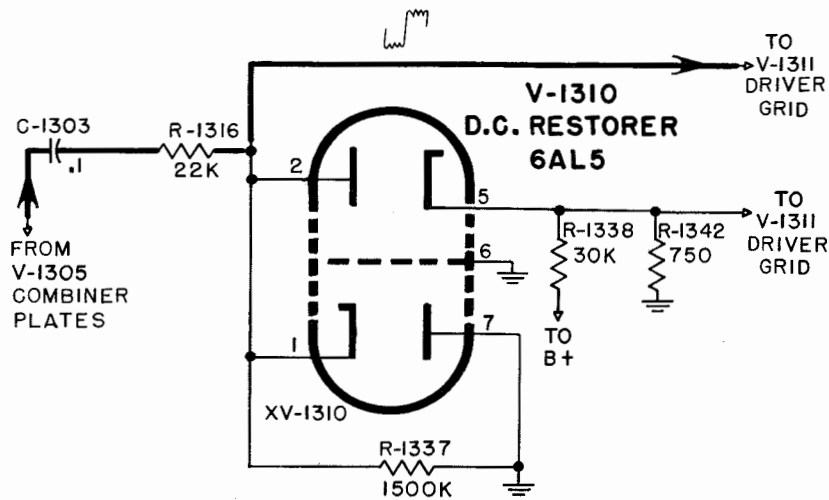

Figure 2-50. D.C. Restorers V-1310, V-1318, Simplified Schematic Diagram
(12) D.C. RESTORERS, V-1310 AND V-1318 (CM-32/FRR-24). (See Figure 2-50).—The following description of the D.C. restorer V-1310 is also applicable to the other D.C. Restorer V-1318. Up to this point the signal has been carried through with amplification not only of its swings but also of its average level. However, the output of a long string of D.C. amplifiers generally drifts considerably in D.C. level. The drift of the transmitter sending the message may shift the average D.C. level to approach the Mark side of the signal or the Space side of the signal depending upon the direction in which the drift occurs. The keying system would be very erratic and unstable resulting in errors if maintained under these conditions. To avoid this, the DC string is now broken by capacitor C-1303. A D.C. restorer V-1310 a type 6AL5 dual diode is inserted to maintain the correct average level. One diode section conducts in the negative direction to ground, the other conducts in the positive direction to a low impedance source, of plus 3.5 volts, which is the voltage developed across R-1342. The two diodes are then connected across the signal line. As long as the signal stays within this region of zero to 3.5 volts the diodes remain open and the average level can wander about at will.